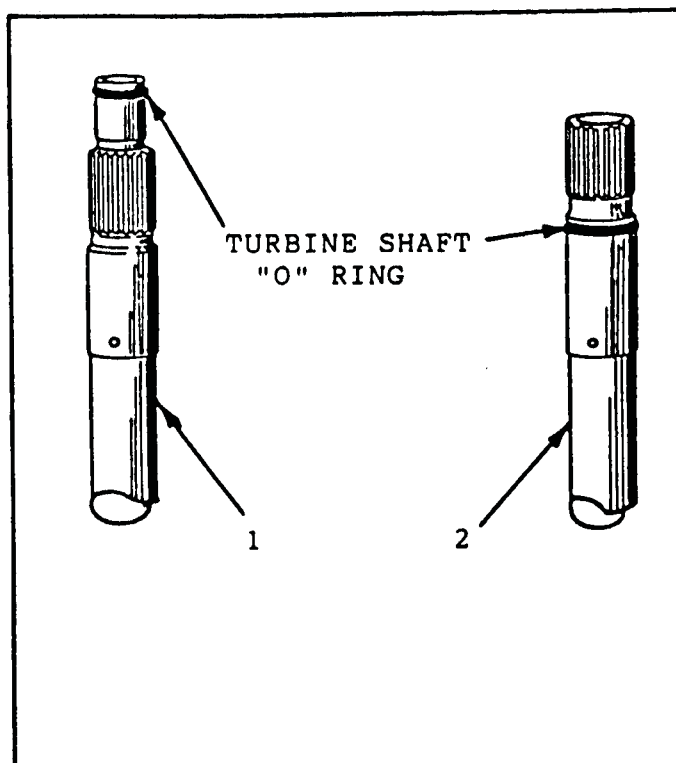

Figure 146
8. Install the proper "O" ring on turbine shaft AFTER end clearance is checked and properly set (See Figure 146).